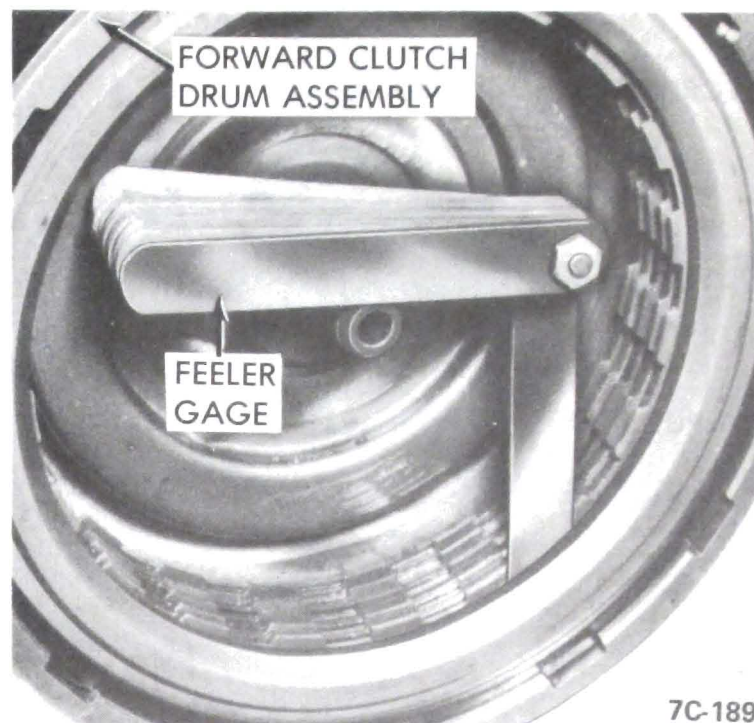

Figure 7C-189
3. Install twenty-one (21) clutch return coil springs. See Figure 7C-183. Return springs are violet in color.